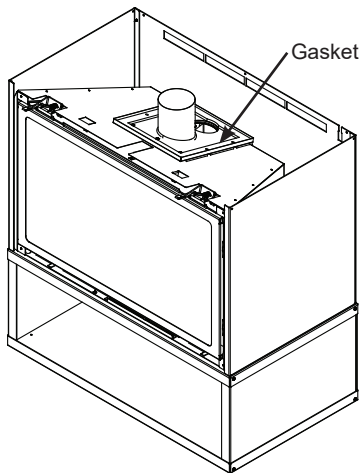

Figure 6.16
16. Install the adapter gasket by setting on top of the adapter weldment assembly and lining up the 4 holes in the gasket with the 4 screw holes in the weldment assembly. See Figure 6.16.